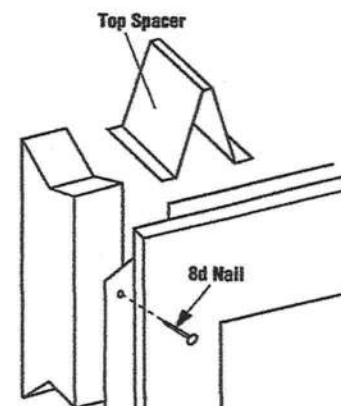

Figure 7
**Step 3.** Fireplace should be secured to side framing members using the full length nailing tabs at the top and bottom of the fireplace front face. Use 8d nails (see **Figure 7**).